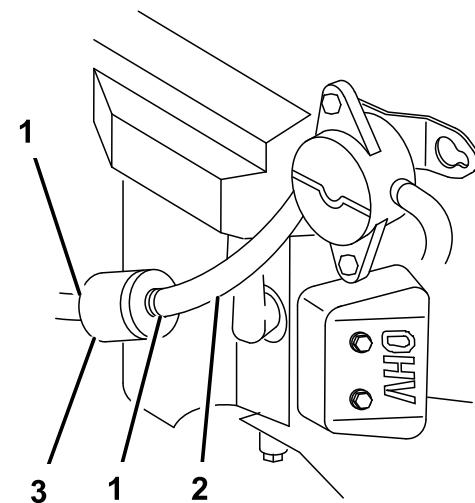

Figure 27
4. Squeeze the ends of the hose clamps together and slide them away from the filter (Figure 27).